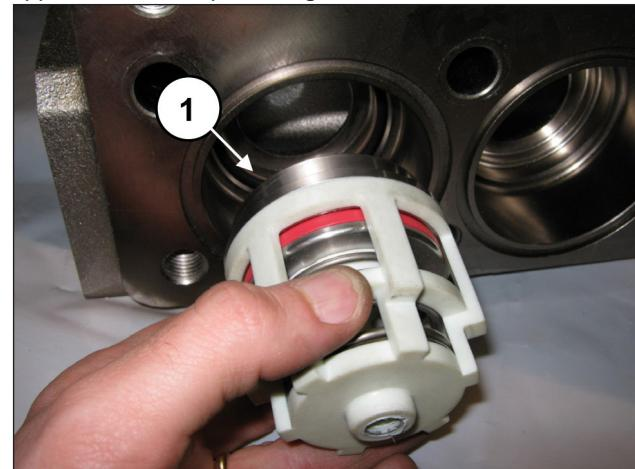

Fig. 151
Insert the suction valve insert (pos. ①, Fig. 151).